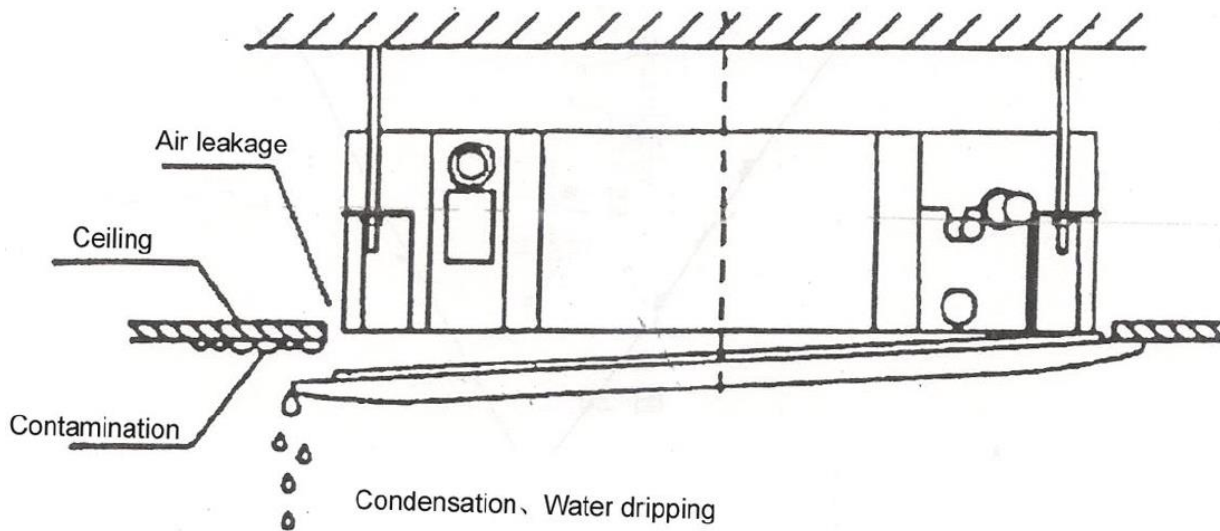

Fig 13
- Improper tightness of bolts will cause failure shown in Fig 13;